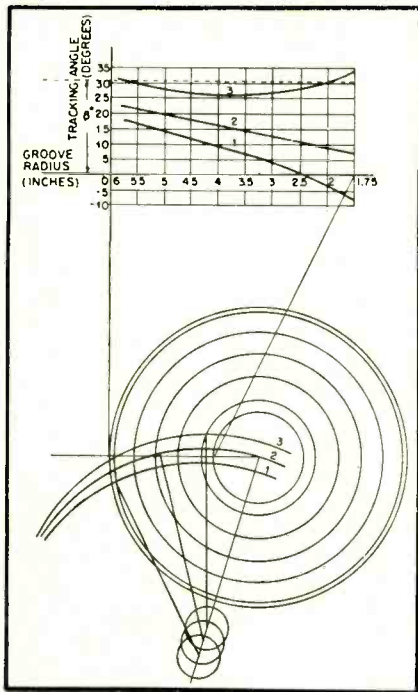

Fig. 16-2. Tracking angle variation of the same arm at different pivot mountings. (Values from Glover.)
4. Reduction of tracking error in an offset arm results from the shift in pivot mounting which the offset allows us to make. It is possible to choose a mounting point for a given arm such that the arc swept across the record intersects the grooves with minimum variation of angle. This is illustrated in Fig. 16-2, which shows the arcs produced by the same arm from different pivots. Considering only the variation in angle at which the arc encounters each groove it will be seen that arc number 3 has the best tracking. The graph of tracking angle vs. radius indicates that arcs numbers 1 and 2 decrease their angles of intersection with each groove as they approach the center, while arc 3, representing a position of the pivot which *overhangs* the needle past the turntable spindle, decreases its intersecting angle only up to a minimum point, and then increases the angle again as further progress toward the center is made.
The key to minimum tracking angle variation, for an arm of given length and offset, is thus the mounting of the pivot. This is specified by the overhang, or distance between the needle and the turntable spindle as the arm is swept past the spindle. Mounting data for offset arms of different lengths is given in Table 16-1. A straight arm requires that the needle be underhung, as may be inferred from Fig. 16-2.